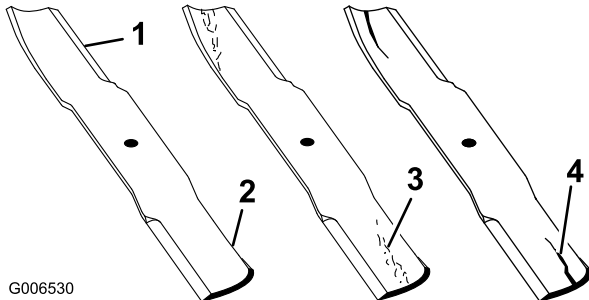

Figure 40
1. Inspect the cutting edges (Figure 40).
2. Inspect the blades, especially the curved area (Figure 40).
Note: If you notice any damage, wear, or a slot forming in this area (item 3 in Figure 40), immediately install a new blade.